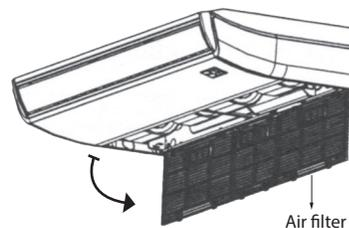

FIG. 6-2
- Take out the air filter. (Refer to Fig.6-2).
- Re-install the air filter in the reverse order of Fig. 6-2.